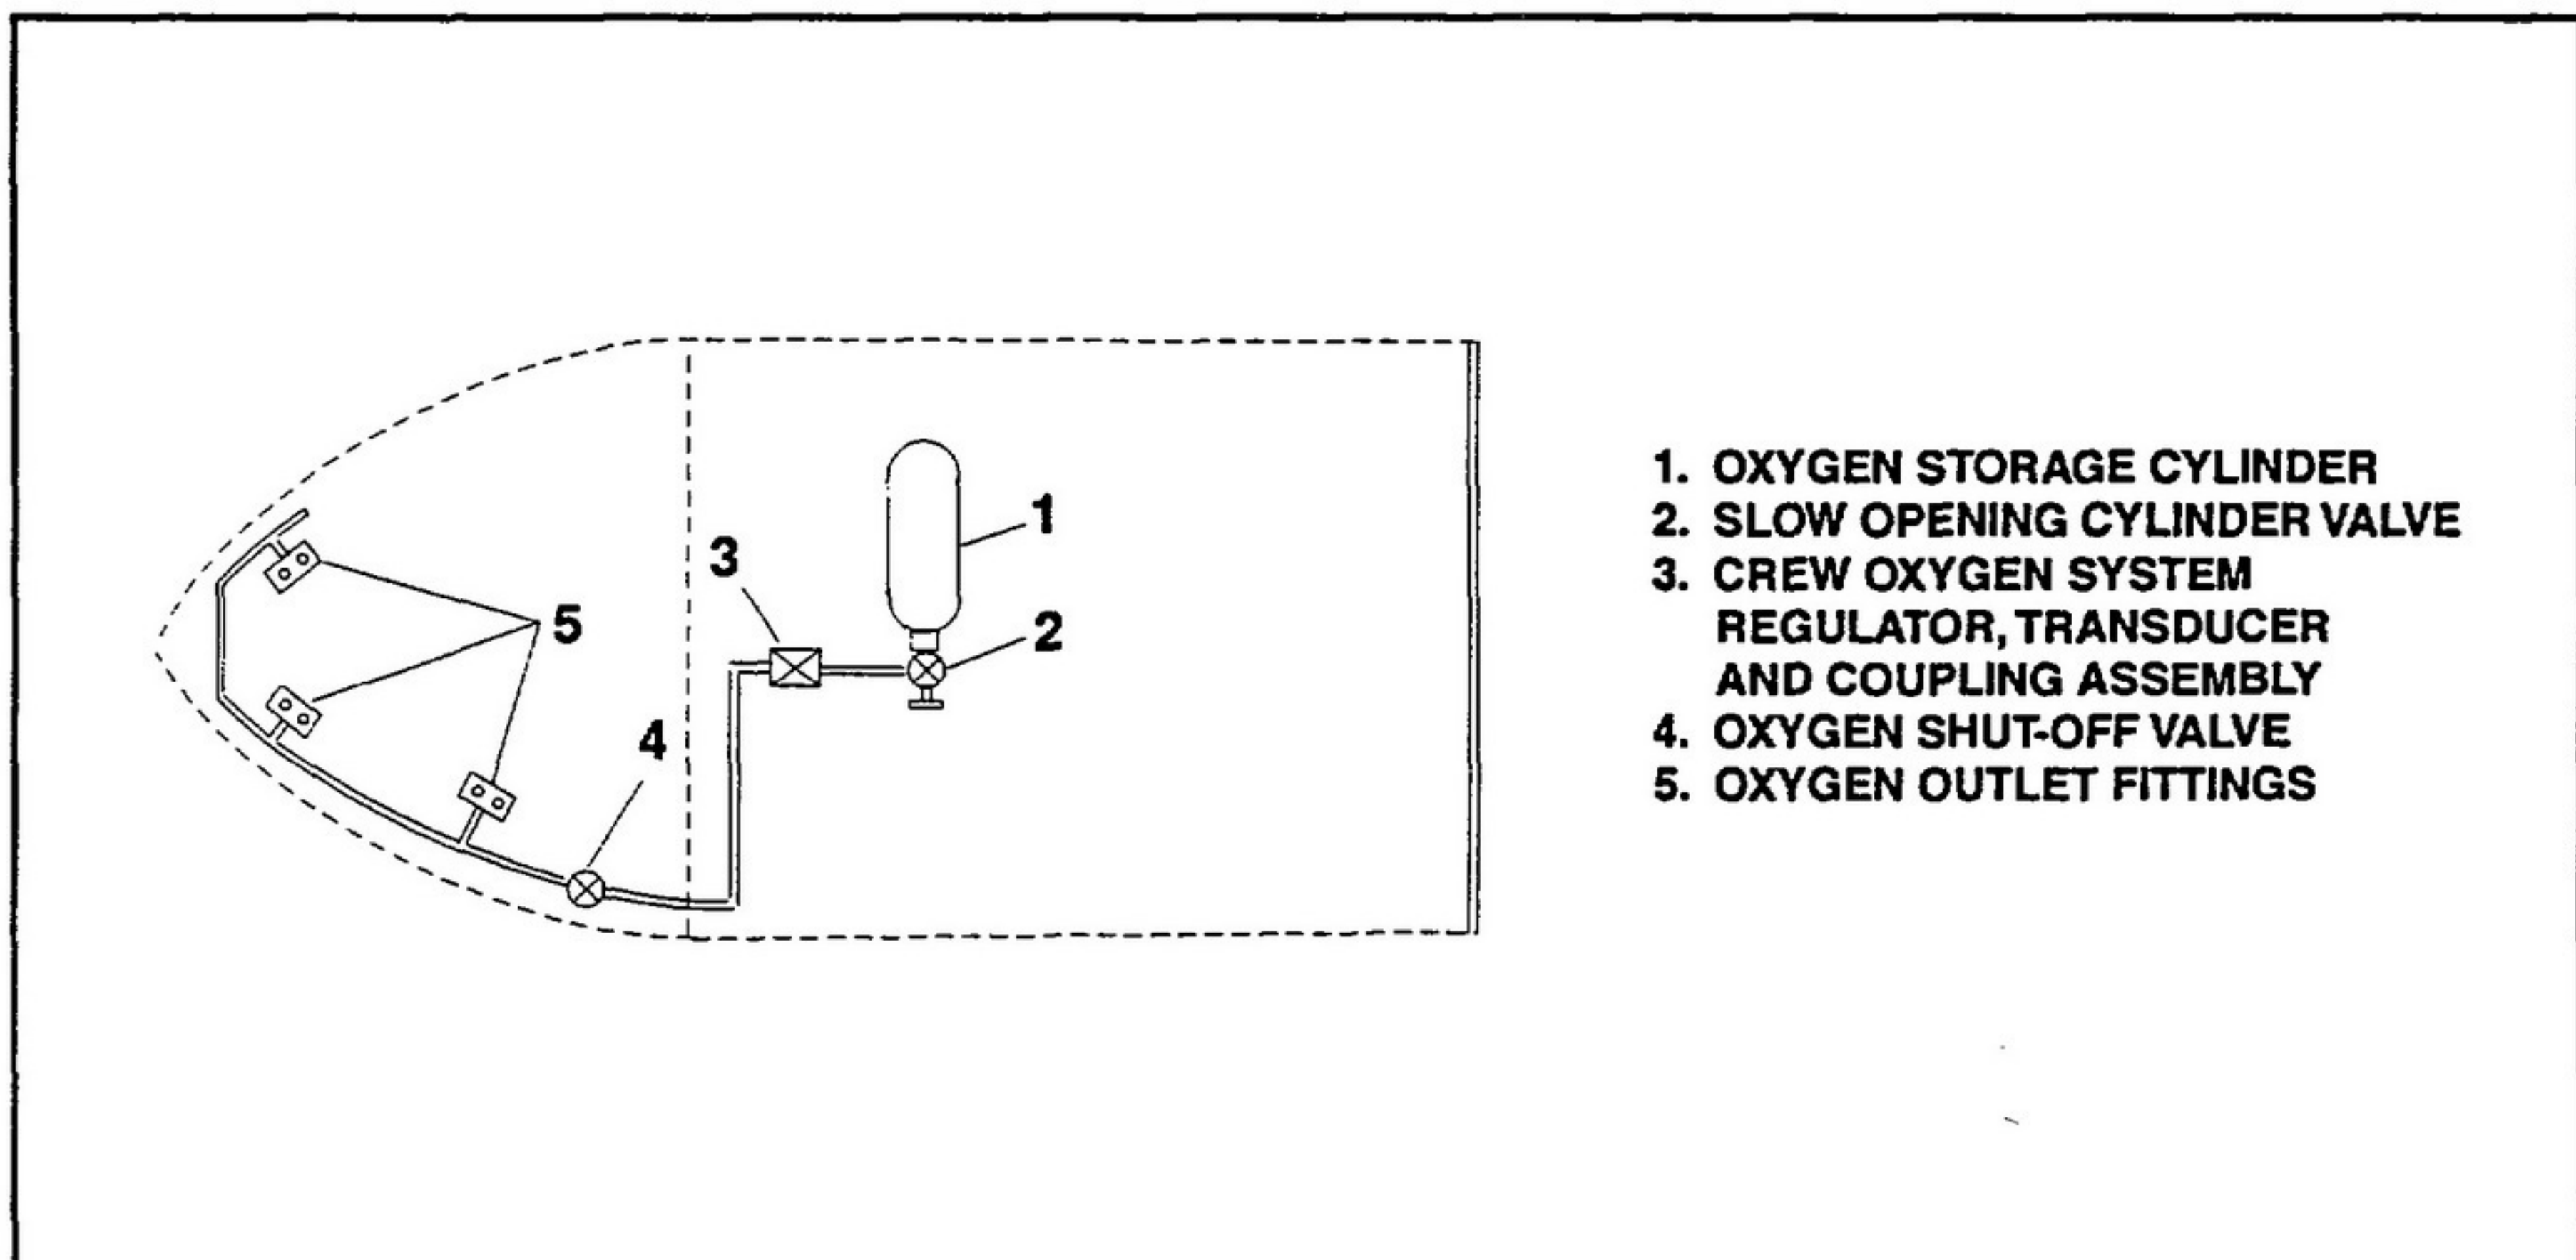

Figure 3 - Typical Installation
A typical installation of the 803163 Series & 803127 Series Crew Oxygen System Regulator, Transducer and Coupling Assemblies in a pressurized control cabin is shown in Figure 3. Oxygen, which is stored at a high pressure in Cylinder (1), flows through Cylinder Valve (2) to the Oxygen Crew System Regulator, Transducer and Coupling Assembly (3). The low pressure oxygen from the outlet port of the regulator portion of the Crew Oxygen System Regulator, Transducer and Coupling Assembly then flows through the Oxygen Shut-off Valve (4) and is available at the Oxygen Outlet Fittings (5) positioned throughout the control cabin.